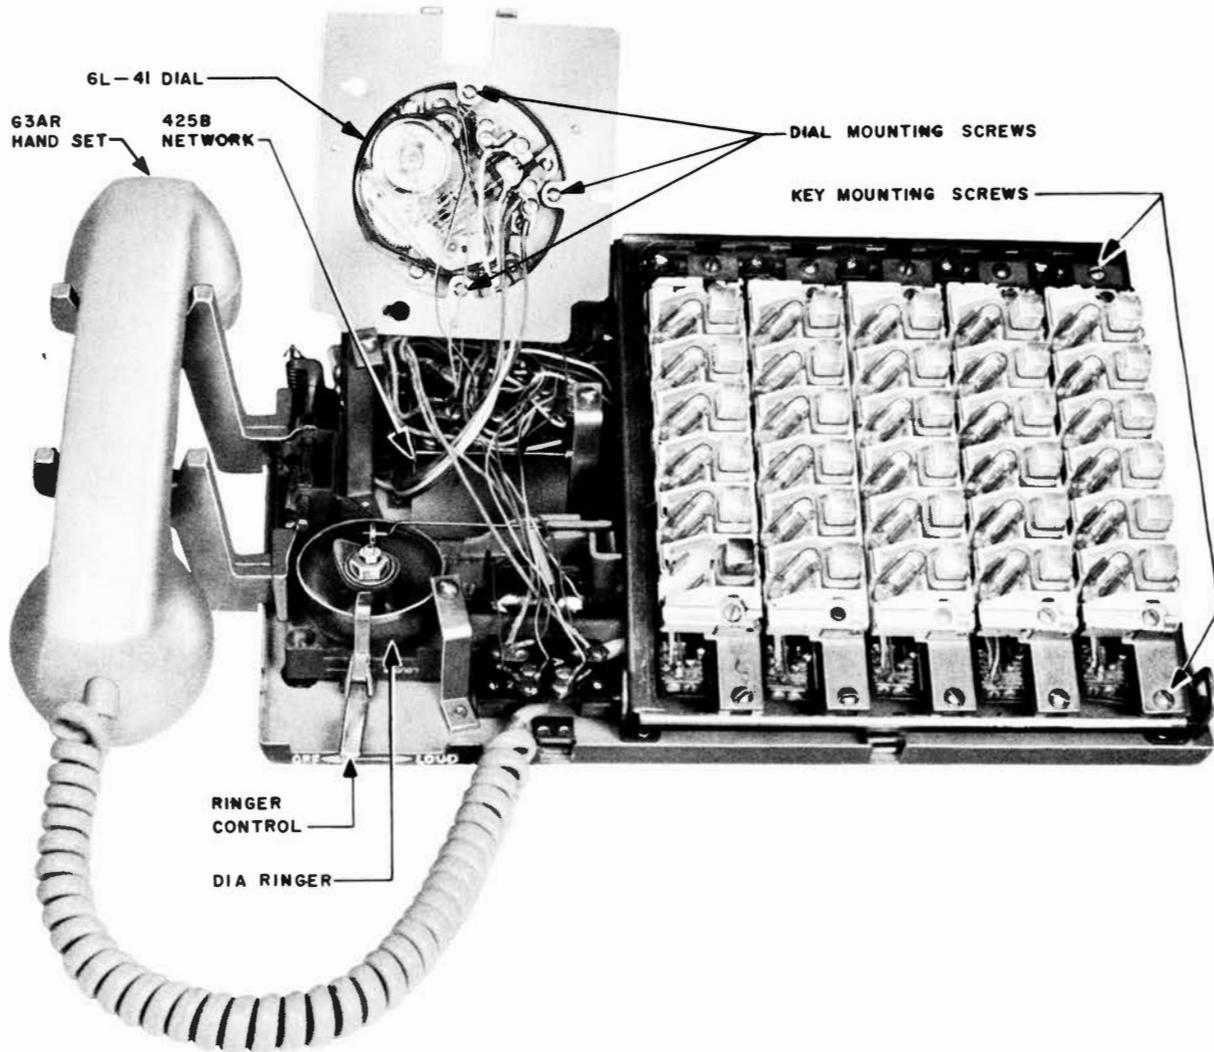

Fig. 10 – 601-Type Telephone Set, Dial Mounting Plate Lifted
5. Remove screws which hold dial to mounting plate (Fig. 10).
2. Loosen screws at top and bottom of key frame (Fig. 10).